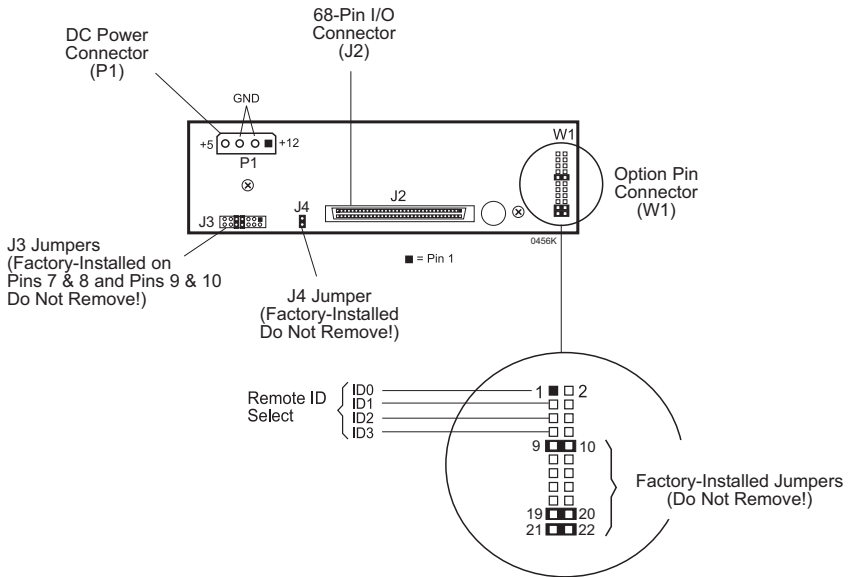

Figure 5: Receiving Frame (Rear View)
(Figure 5)
6. To connect the drive to a Remote Activity LED in the computer system or expansion chassis, connect the appropriate cable(s) to W1 Pins 9 & 10 on the receiving frame motherboard as shown in Figure 5.
7. Connect the I/O cable from the host adapter to the receiving frame. The Pin 1 indicator on the cable must be properly aligned. Refer to Figure 5 for the correct Pin 1 location.
8. Connect the power cable from the DC power supply in the computer or expansion chassis to the power connector on the DE200 receiving frame. Refer to Figure 5 for the DE200 receiving frame power connector location.